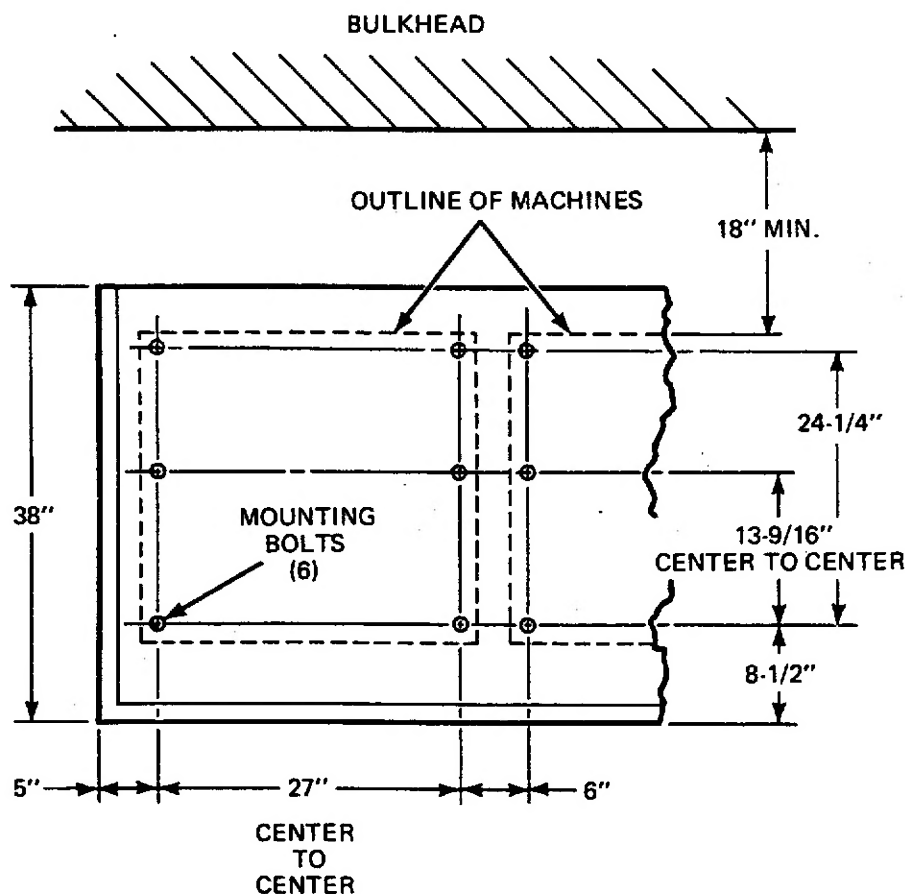

Figure 2
IMPORTANT: Size of template may change with humidity. Please check dimensions before using. See Figure 2.
- e. Check dimensions from bolt to bolt to assure that bolts are located properly. See Figure 2.
- k. Check dimensions from bolt to bolt to assure that bolts are located properly. See Figure 2.